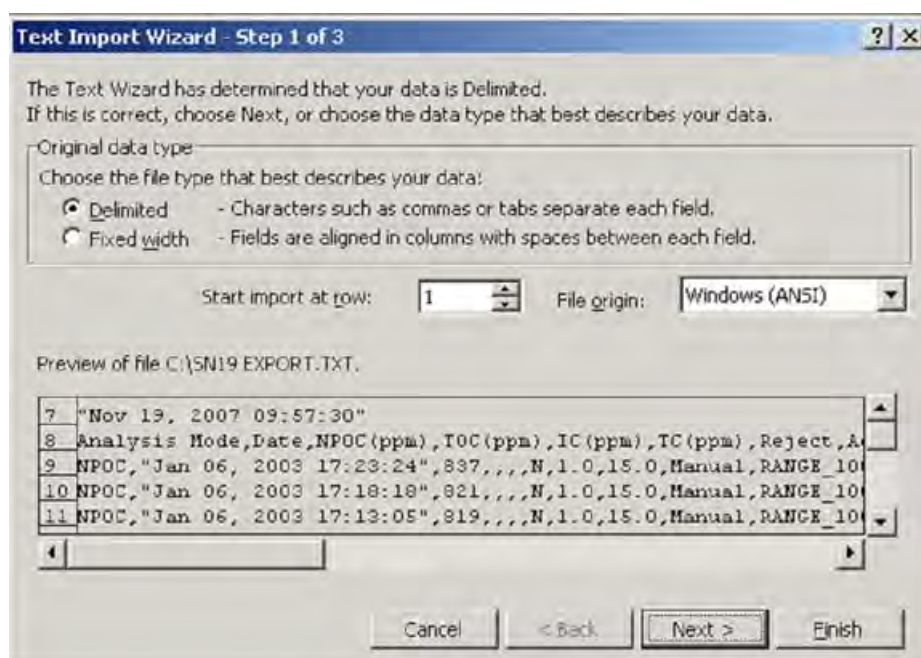

Figure 131: Microsoft Excel Spreadsheet Screen — Text Import Wizard - Step 1
6. Depending on the version of Microsoft Excel spreadsheet program you have, the program may automatically start the "Text Import Wizard" to help you create a spreadsheet from the data in the file. If the "Text Import Wizard" dialog box appears (see Figure 131), make sure **Delimited** is selected and click the **Next** button.